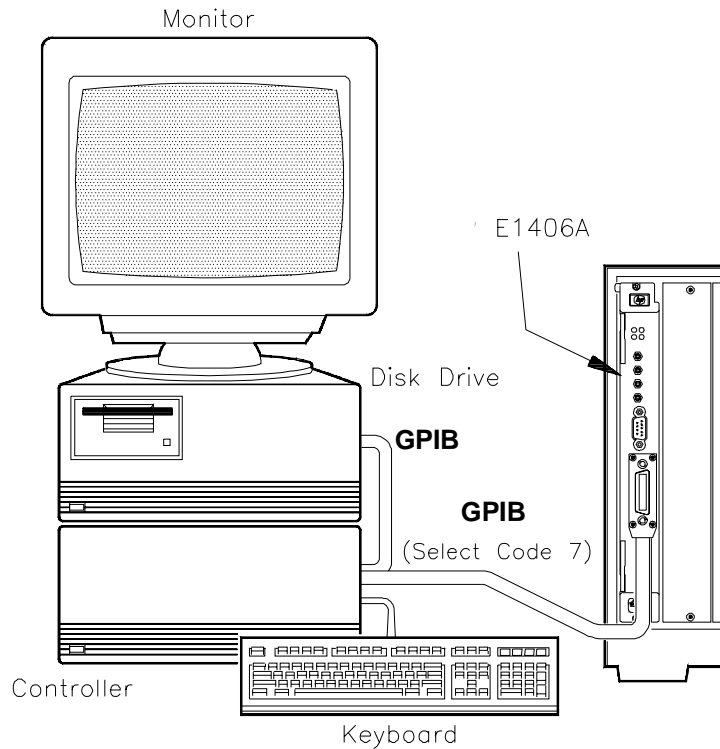

Figure 2-14. Test F-7: Serial Port Info Connections
- Connect computer to Command Module (see Figure 2-14)